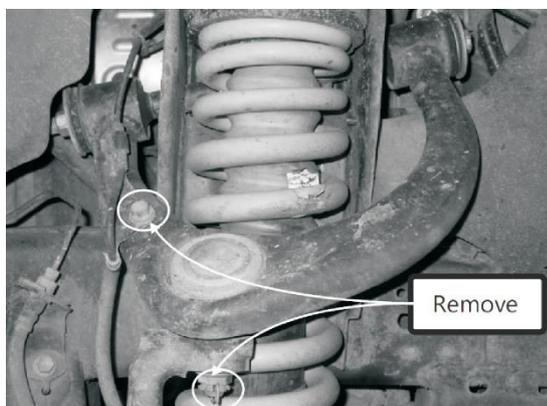

Figure 3 - Removal location of ABS wiring and split pin.
3. Loosen the nut on the upper arm-to-frame mounting bolt and remove bolt holding ABS wiring from upper arm. (Figure 3.)